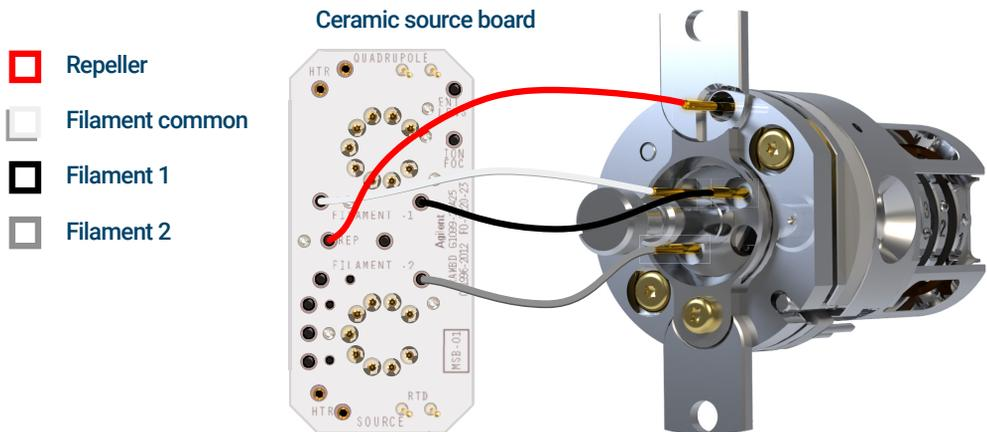

Figure 36. Wiring between the ceramic source board and the EI HES
- 1 Use tweezers or needle nose pliers to connect/disconnect the ceramic board wire leads (red, white, black, and gray) at the source connectors. (See Figure 36.)